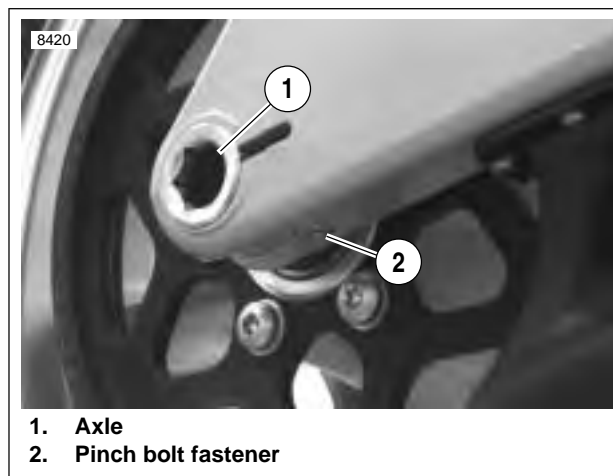
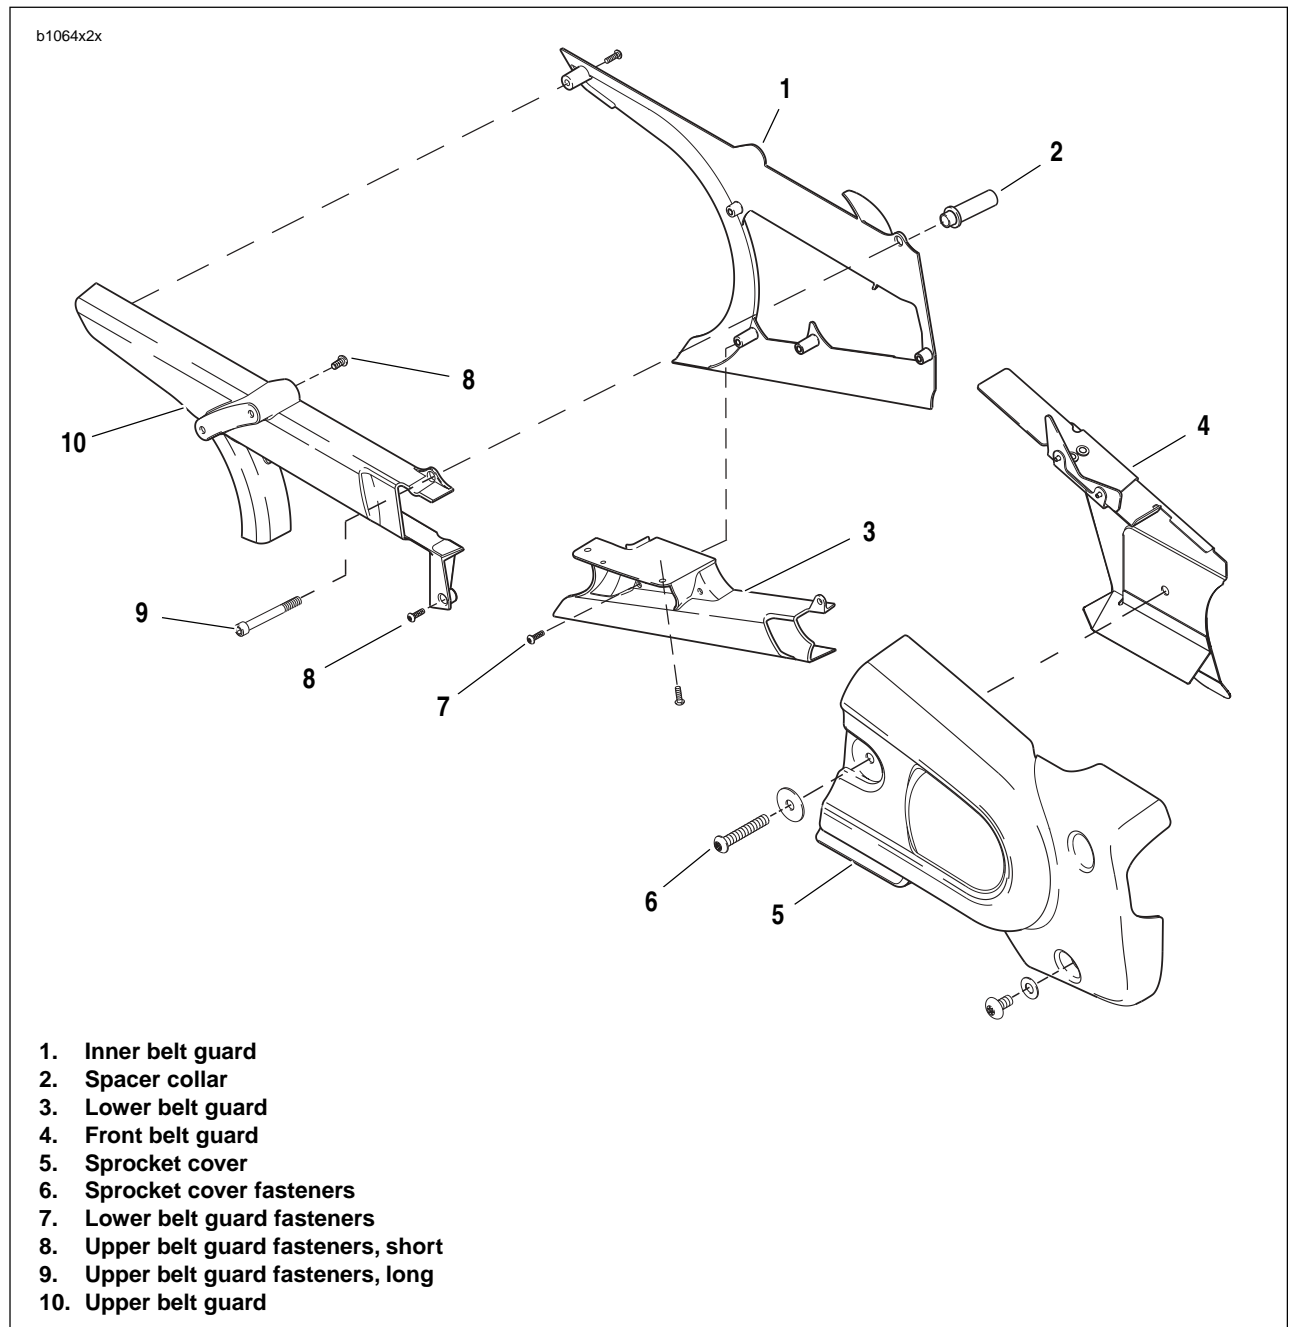

Figure 1-23. Rear Wheel Mounting, Right Side
Figure 1-24. Belt Guard Assembly
4. See Figure 1-24. Remove front sprocket cover (5) by removing fasteners. See 2.30 SPROCKET COVER.
5. See Figure 1-23. Loosen rear axle pinch fastener (2).
6. Loosen rear axle (1) approximately 15 rotations to allow partial tension to be removed from rear drive system.
8. See Figure 1-24. Remove lower belt guard (3) by removing fasteners (6).
9. Remove upper belt guard (10) by removing fasteners (7).
2. See Figure 1-24. Install upper belt guard (10) to swingarm brace tightening fasteners (9) to 12-36 **in-lbs** (1-4 Nm).
- a. Position the inner belt guard (1) and upper belt guard (10) onto swingarm.
- b. Install fastener (8) and spacer collar (2) between upper belt guard (10), inner belt guard (1) and swingarm brace.
4. Install upper belt guard (10) and tighten fasteners (7) to 12-36 **in-lbs** (1-4 Nm).
6. Install lower belt guard (3) and tighten fasteners (6) to 12-36 **in-lbs** (1-4 Nm).
8. See Figure 1-23. Tighten rear axle (1) to 48-52 ft-lbs (65-70 Nm).
9. Tighten rear axle pinch fastener (2) to 40-45 ft-lbs (54-61 Nm).
11. See Figure 1-24. Install front sprocket cover (5) by tightening fasteners to 12-36 **in-lbs** (1-4 Nm). See 2.30 SPROCKET COVER.